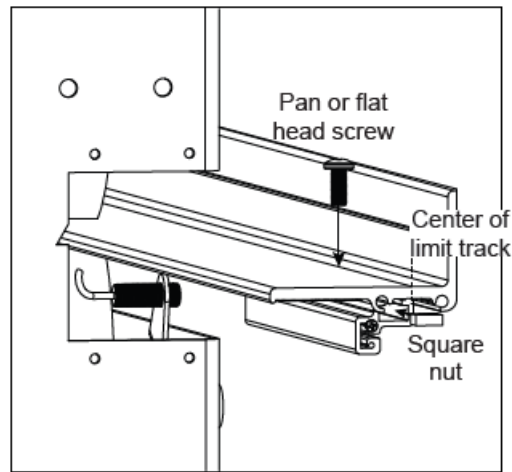

Figure 6. Limit Flag Fasteners
10. Install a screw into the limit flag holes, thread a square nut onto each screw, and slide the limit flag onto the square nut (Figure 6).